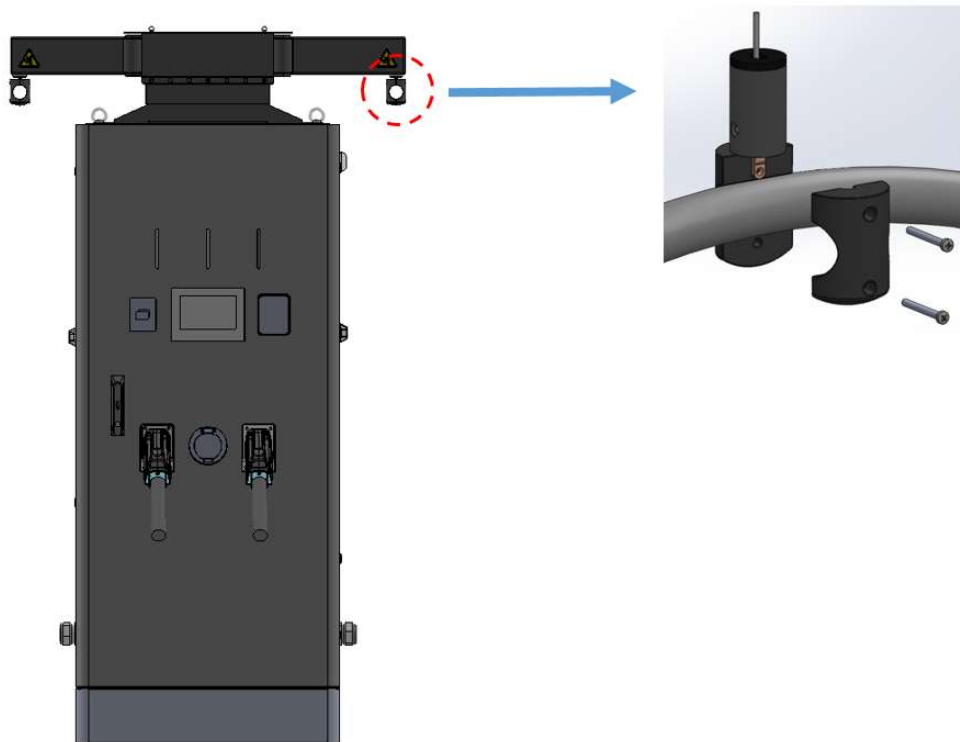

Figure 9 Schematic diagram of charging cable fixing
- (3) Fix the charger with nuts.
- (4) Install the base sealing plate. Make sure the screw is tightened enough
- (5) Fix the charging cable on the cable management system by cable clamp, as shown in Figure 9 and the length of the charging cable from the gland to the clamp is 2.0 m. During the whole installation process, keep the charging cable sagging naturally to avoid knotting and torsion caused by external force.